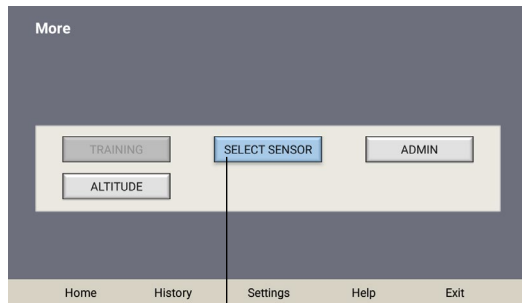

FIGURE 23
4. Touch the Select Sensor button (Figure 23).